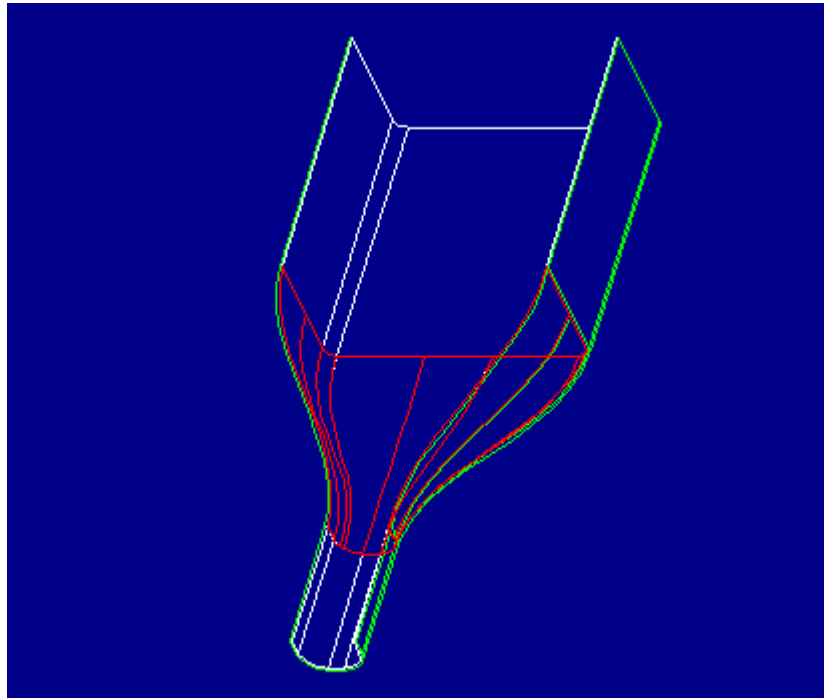
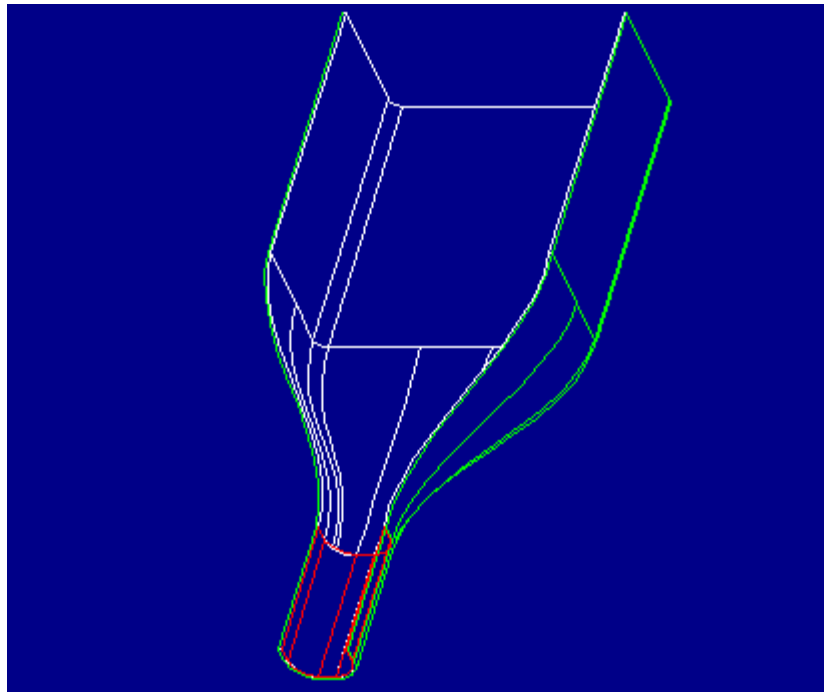

Figure 11
Figure 12
13. Select the surfaces from the intermediate wall as shown in Figure 11, **Done Sel**, and **Done Refs**. Select **OK** from the dialogue box to complete the merge.
14. Create another merge feature on the end wall using the steps outlined previously. For the first wall select the surfaces shown in Figure 11 (above), **Done Sel**, and **Done Refs**. For the second set of surfaces, select the surfaces shown in Figure 12, **Done Sel**, and **Done Refs**. Select **OK** from the dialogue box to complete the merge.